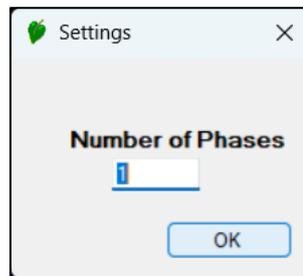

Fig. 4 Definition of the selected number of phases (in Advanced Circadian Function and Advanced Multi-phase Function only)
- For Circadian and Multi-Phase options, define the number of measurement phases (Fig. 4).